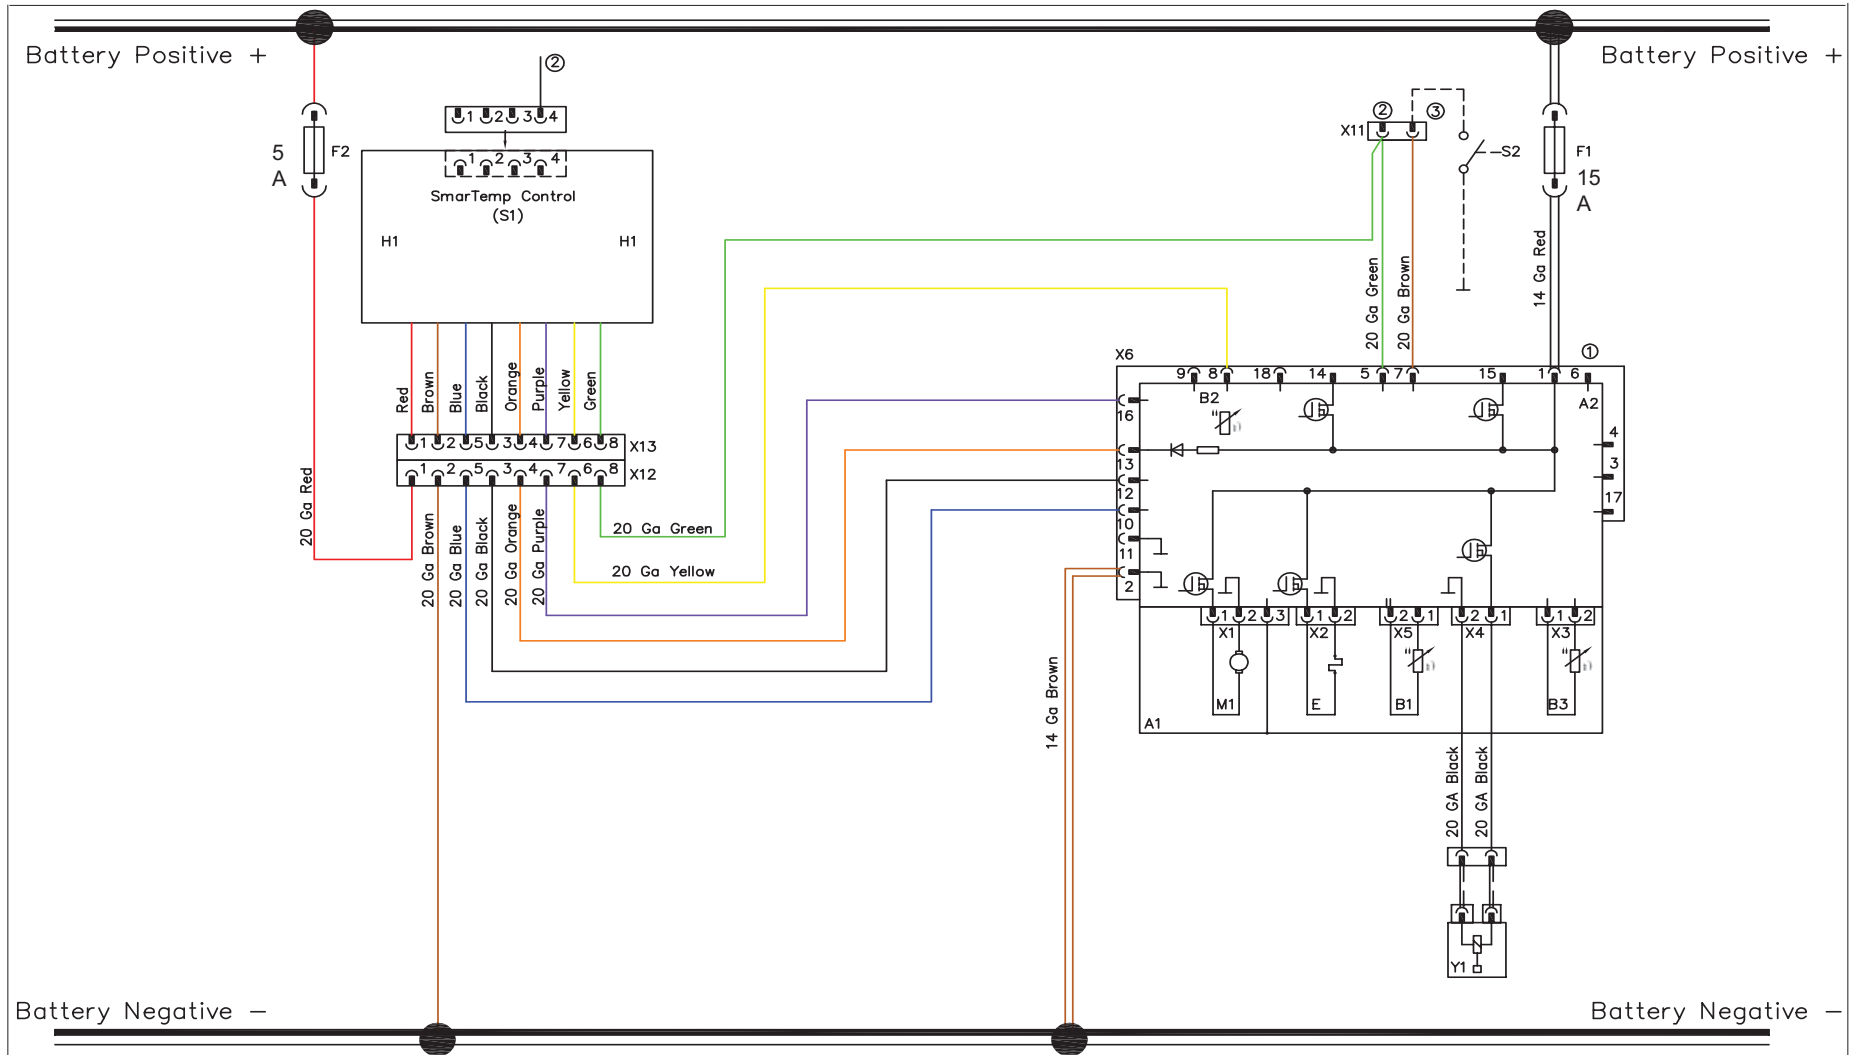

Fig. 50 Wiring diagram Air Top 2000 ST with SmarTemp Control, for legend see Page 44
- Follow the electrical pin-out fig. 50 to install the supplied harness connector and harness adaptors.